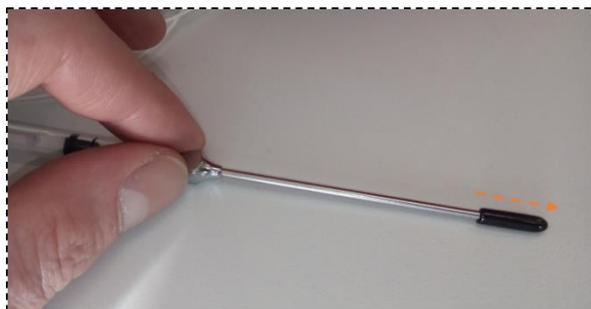

Figure 9: Remove needle cap.
6. Remove the protective needle cap while holding the pH microsensor between needle adaptor and barrel (Figure 9).
12. Pull back the sensor tip into the protective steel needle by pulling the plunger while holding the pH microsensor between needle adaptor and barrel (Figure 9).